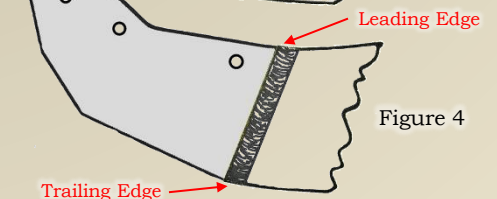

Figure 4
4. Use hard-facing style welding rod on the last pass to provide abrasive wear resistance (figure 4). Grind the leading edge and trailing edge of the repair ripper shank until smooth.